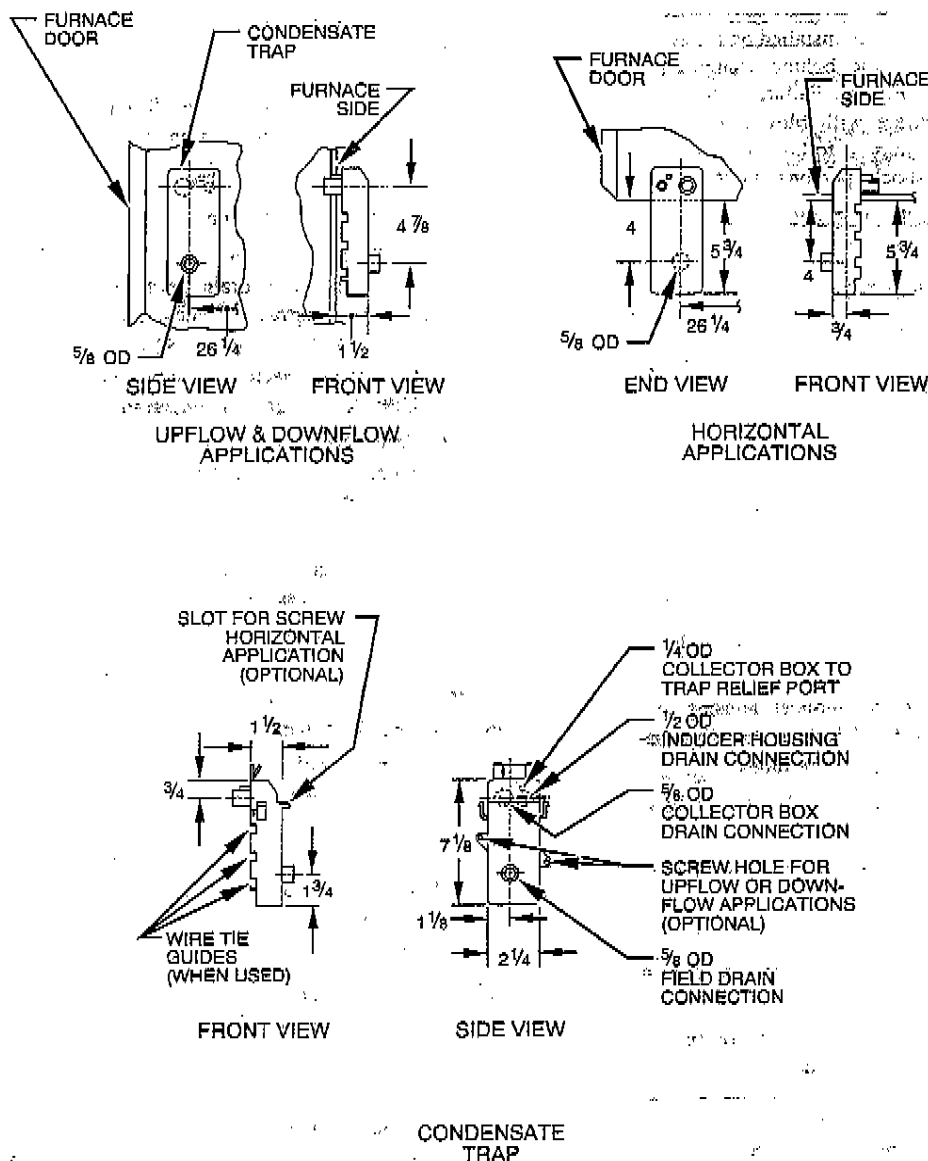

Fig. 5—Condensate Trap
- After condensate trap is installed, determine proper length of tube to connect LOWER collector box drain connection to LARGER 5/8-in. OD tube connection on condensate trap. (See Fig. 5.)
- After condensate trap is installed, determine proper length of tube to connect LOWER inducer housing drain connection to SMALLER 3/8-in. OD tube connection on condensate trap. (See Fig. 5.)
- After condensate trap is installed determine proper length of tube to connect LOWER collector box drain connection to LARGER 5/8-in. OD tube connection on condensate trap. (See Fig. 5.)
- Determine proper length of tubing to connect LOWER inducer housing drain connection to SMALLER 3/8-in. OD tube connection on condensate trap. (See Fig. 5.)
- After trap is installed, determine proper length of tube to connect LOWER collector box drain connection to LARGER 5/8-in. OD tube connection on condensate trap. (See Fig. 5.)
- After trap is installed, determine proper length of tube to connect LOWER inducer housing drain connection to SMALLER 3/8-in. OD tube connection on condensate trap. (See Fig. 5.)
CAUTION: The condensate trap **MUST** be installed below furnace. See Fig. 5 for dimensions. The drain connection to condensate trap must also be properly sloped to an open drain.
- Determine proper length of tube to connect LOWER inducer housing drain connection to SMALLER 3/8-in. OD tube connection on condensate trap. (See Fig. 5.)